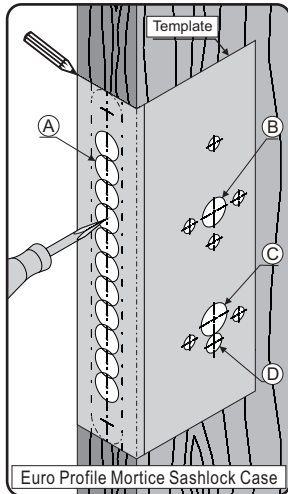

Fig. 1
- Mark position of lever handle at HOLE B and at HOLES C & D (euro cyl), then mark bolt through fixing positions for lever rose and cylinder escutcheon, or backplate. See Fig 1.